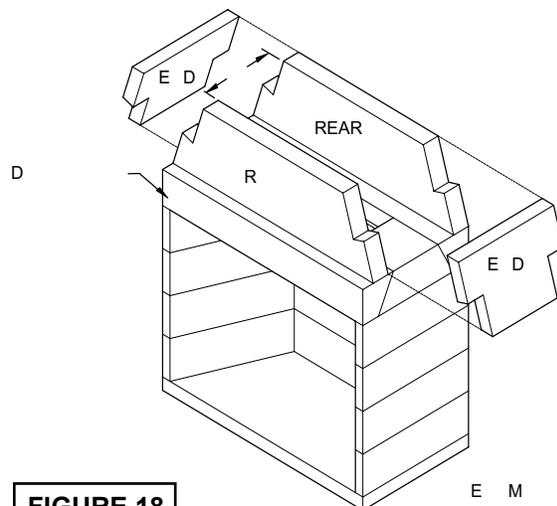

FIGURE 18
Run a thin bead of mortar around the four sides of the cast iron damper or tack the corners of the flange to avoid movement of the damper as it gets opened and closed. Set the rear smoke dome component across the damper beam in a bed of mortar and flush with the back face of the back damper beam lintel. (Figure 18)
Step 9: Position the smoke dome's sloping sidewalls at each end of the smoke dome components. (Figure 18)